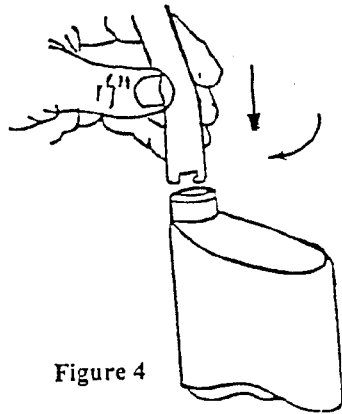

Figure 4
6. Lock spray tube in by pushing down in opening, then rotate clockwise. Correctly installed tube will face front of bowl (See Fig. 4).